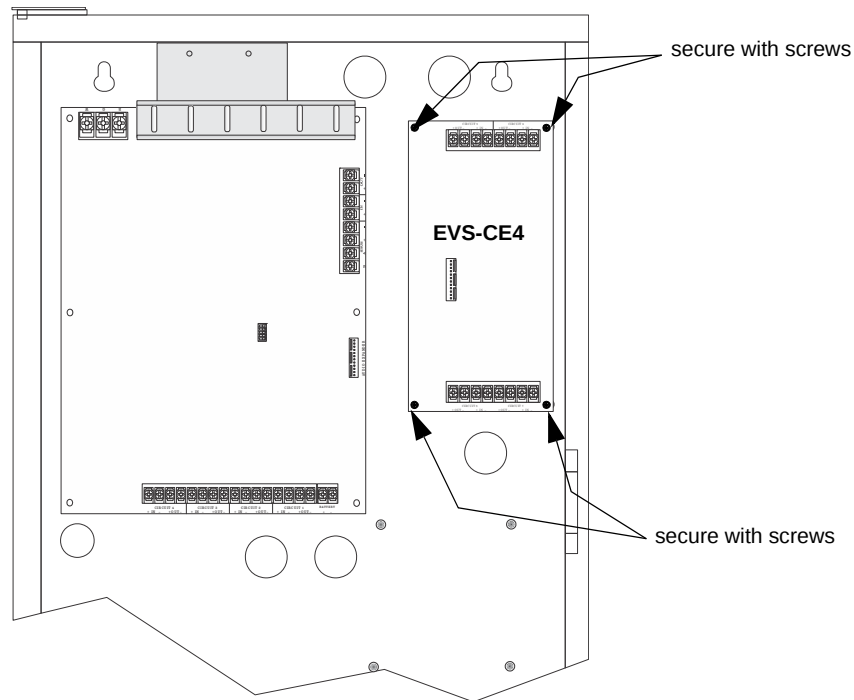

Figure 4.49 Mounting the EVS-CE4
- Secure the EVS-CE4 to the backbox using the four supplied screws as shown in Figure 4.49.